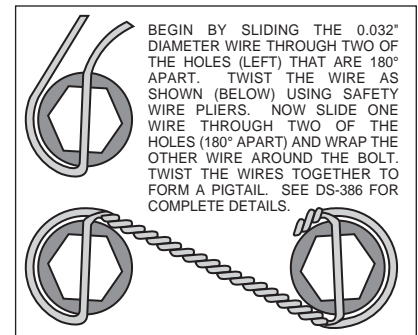

Figure 3. Safety Wire Diagram
- The caliper mount bracket assembly (1) should be installed first with clean, dry threads on the mounting bolts. Mount the bracket using bolts (2) and the stock washer saved from the disassembly installed from the backside of the spindle. The bracket must tighten squarely against the outboard side of the caliper mount bosses on the spindle body. Inspect for interference from casting irregularities, machining ridges, burrs, etc. Use one thin shim (3) between the bracket and spindle during initial trial fitting. Later, after the caliper, pad, and rotor alignment has been checked, and any necessary shims have been put in place, the mount bolts should be coated with red *Loctite*® 271 and torqued to 60 ft-lbs.
- With the larger I.D. side of the rotor (4) facing away from the hat (5), bolt the rotor (4) to the hat (5) through the backside of the rotor using washers (6) and bolts (7). Using an alternating sequence, apply red *Loctite*® 271 to the threads and torque bolts to 155 **in-lb**. For an added measure of security, the bolts may be safety wired using standard 0.032 inch diameter stainless steel safety wire as shown in Figure 3. Please refer to Wilwood's data sheet DS-386 (available at www.wilwood.com/Pdf/DataSheets/ds386.pdf) for complete safety wire installation instructions.